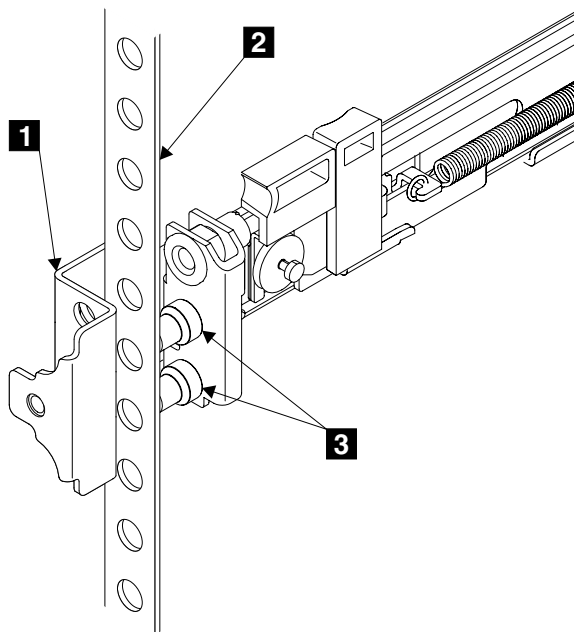

Figure 115. Installing the front end of the rail
11. Place the front end of the left rail in the rack cabinet. Align the top of the front bracket **1** (Figure 115 on page 164) with the required EIA marking that is on the rack.